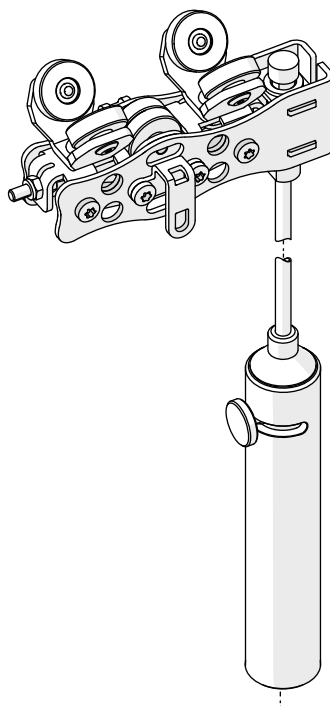

Fig. 67: Completed conversion to OFFICE master runner with add-on brake
- ✓ The master runner is fully assembled (see Fig. 67). The magnet plate is attached after hanging the outer layers (see also *Chapter 5.8.2 Attaching outer layers to OFFICE master runners* [► p. 92]).